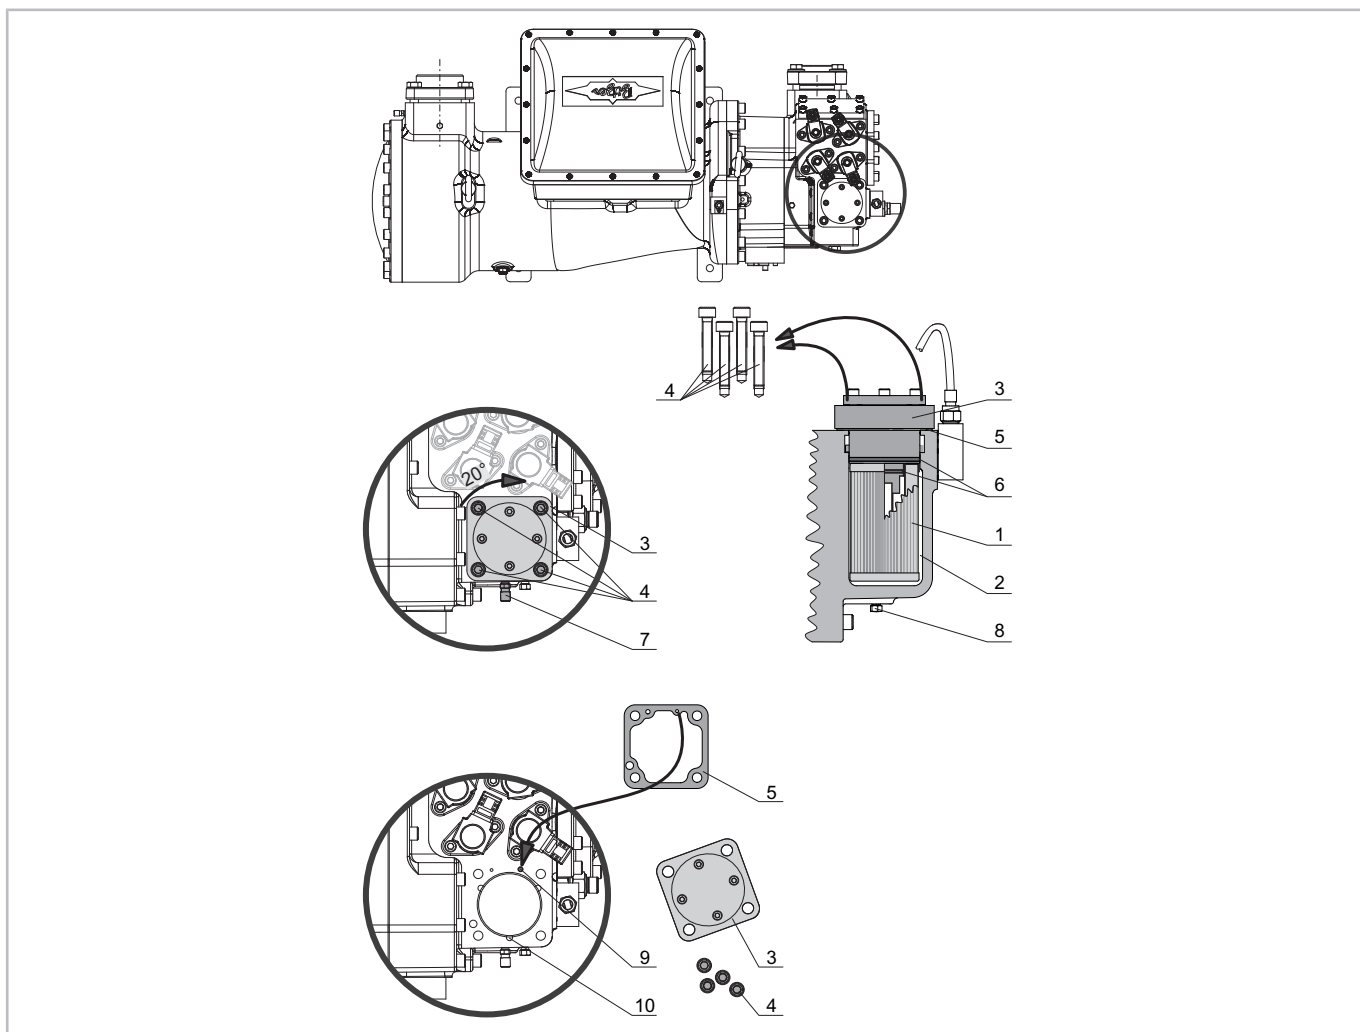

Fig. 13: HS.85: Replace oil filter
- HS.85: in front of the oil filter chamber, for replacement of the internal oil filter (see figure 13, page 52).
HS.85: Replacing the internal oil filter (see figure 13, page 52)